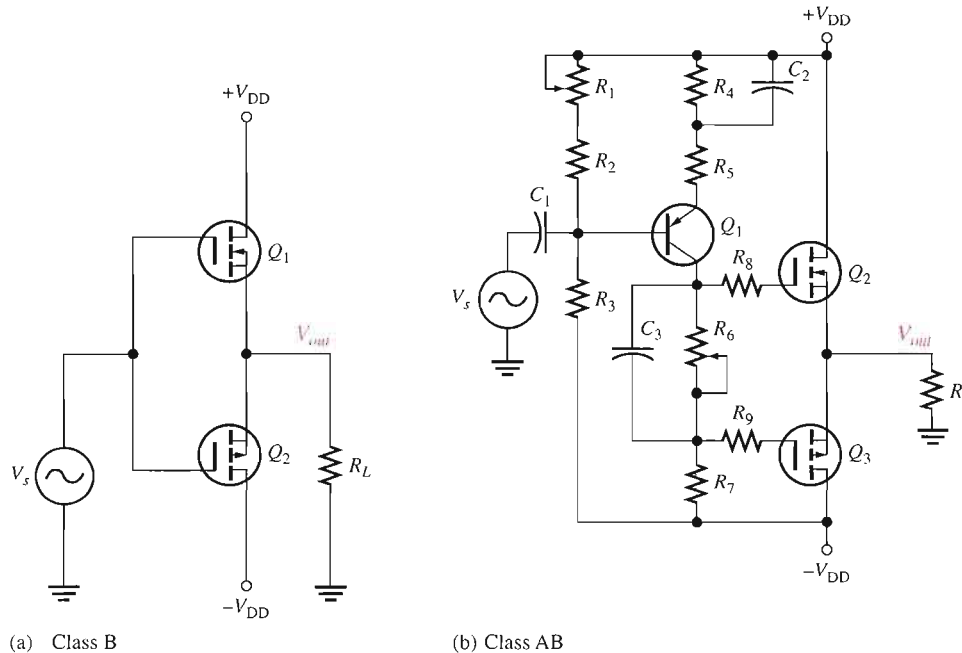

FIGURE 9–20 MOSFET push-pull amplifiers.
A darlington class AB push-pull amplifier is shown in Figure 9–19. Four diodes are required in the bias circuit to match the four base-emitter junctions of the two darlington pairs.
► **FIGURE 9–19**
A simplified class B amplifier using complementary symmetry E-MOSFETs and two-supply operation is shown in Figure 9–20(a). Recall that an E-MOSFET is normally off but can be turned on when the input exceeds the threshold voltage. For logic devices, the *on* voltage is typically between 1 V and 2 V; for standard devices the threshold is higher. When the signal exceeds the positive threshold voltage of Q_1 , it conducts; likewise, when the signal is below the negative threshold voltage of Q_2 , it conducts. Thus, the *n*-channel device conducts on the positive cycle; the *p*-channel device conducts on the negative cycle.
As in the case of the BJT push-pull amplifier, the transistor does not conduct just above zero signal voltage, which causes crossover distortion. If each transistor is biased just at the threshold voltage, the MOSFETs will operate in class AB, as shown in the circuit in Figure 9–20(b). This amplifier includes a BJT amplifier as a driver and other components to assure a reasonably linear output from an E-MOSFET push-pull stage. Of course, there are additional features to this basic design in commercial amplifiers.
The basic class AB push-pull amplifier shown in Figure 9–20(b) includes a common-emitter stage that amplifies the input signal and couples the signal to the gates of the push-pull stage, consisting of Q_2 and Q_3 . Notice that R_6 is bypassed with capacitor C_3 to allow identical ac signals to be applied to the push-pull stage. Potentiometer R_6 is used to develop the proper dc voltage to set the bias to the threshold voltages of Q_2 and Q_3 . It is adjusted to minimize crossover distortion. Potentiometer R_1 is adjusted to zero the output dc output voltage with no input signal.